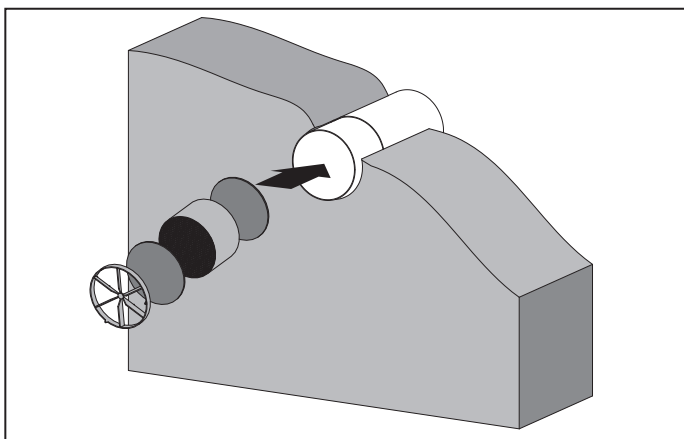

Fig. 9. Unit components mounting
5. Install the ceramic regenerator with both filters, front and back, and the air flow rectifier in this sequence, fig. 9.